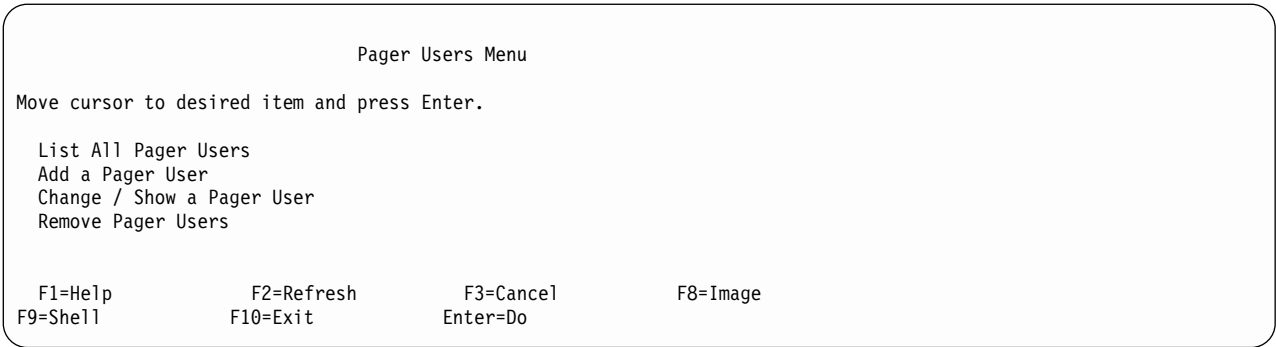

Figure 11-38. Pager Users Menu
- If **YES** is selected see Figure 11-38 on page 11-66. Follow the steps below.